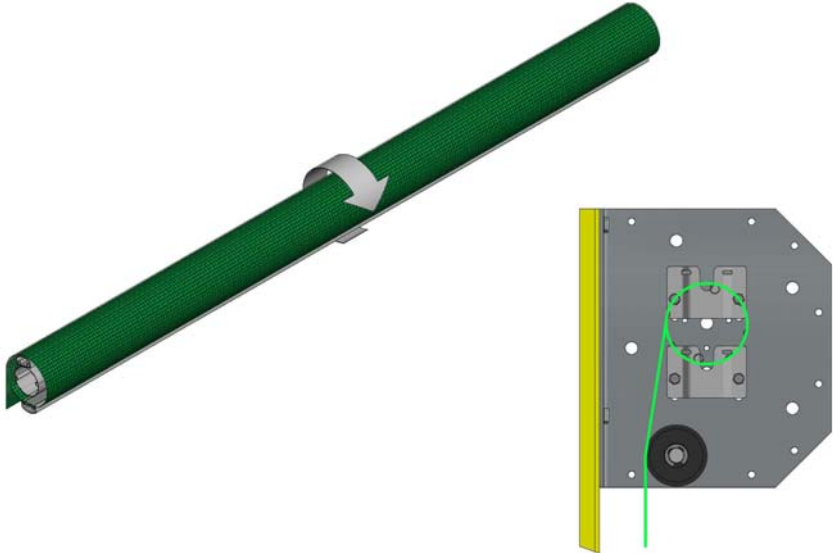

Figure 6a, Fabric Attached to Top Tube and Rolled Up
- 5. Roll the windbars and fabric panels onto the top tube. It is important that when the door is hung the fabric should come off the back of the top tube, between the tube and the building face (Figure 6a).